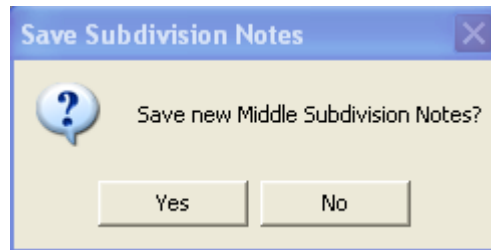

Figure 1-8
- f) Since we currently have no other subdivisions, we need not go into the "Middle Subdivisions" section, but let's have a quick look in there. Once you click on the "Middle Subdivisions" (tt) you will be asked about saving the Middle Subdivision Notes (see Figure 1-8). Note that you will be asked this question if any of the data has been changed, regardless of whether you went into the "Middle Subdivisions" section. Clicking on the "Middle Subdivisions" button also closes the "Middle characteristics" window.